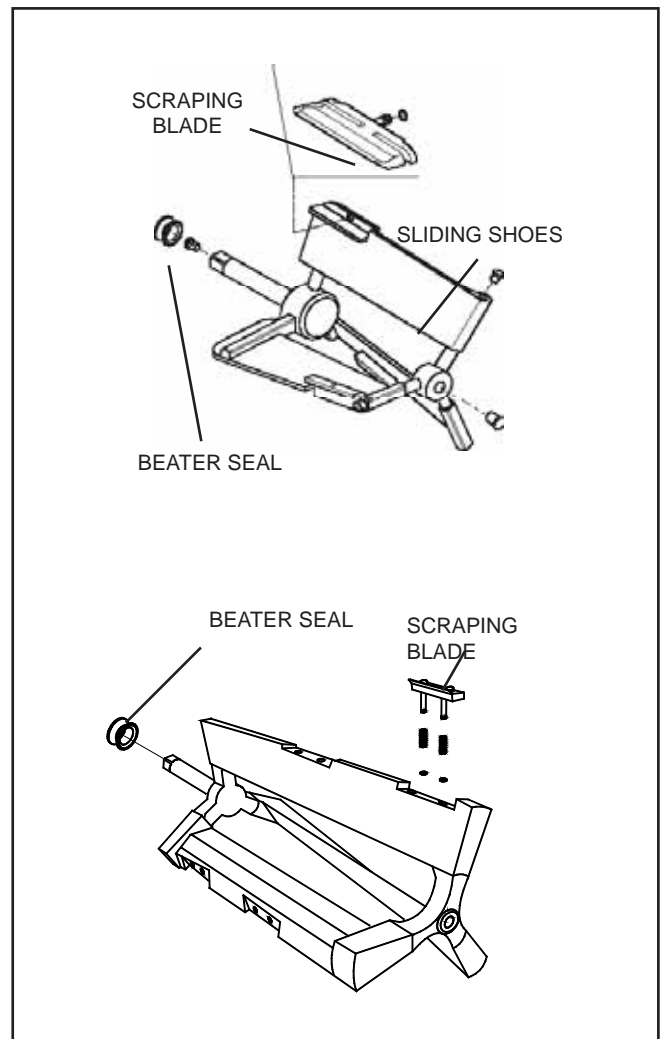

Figure 29
- Remove the beater lip seal from its seat on the beater shaft (ref. Fig. 29).
- Disassemble the scraping blades and O-Ring completely (ref. Fig. 29).